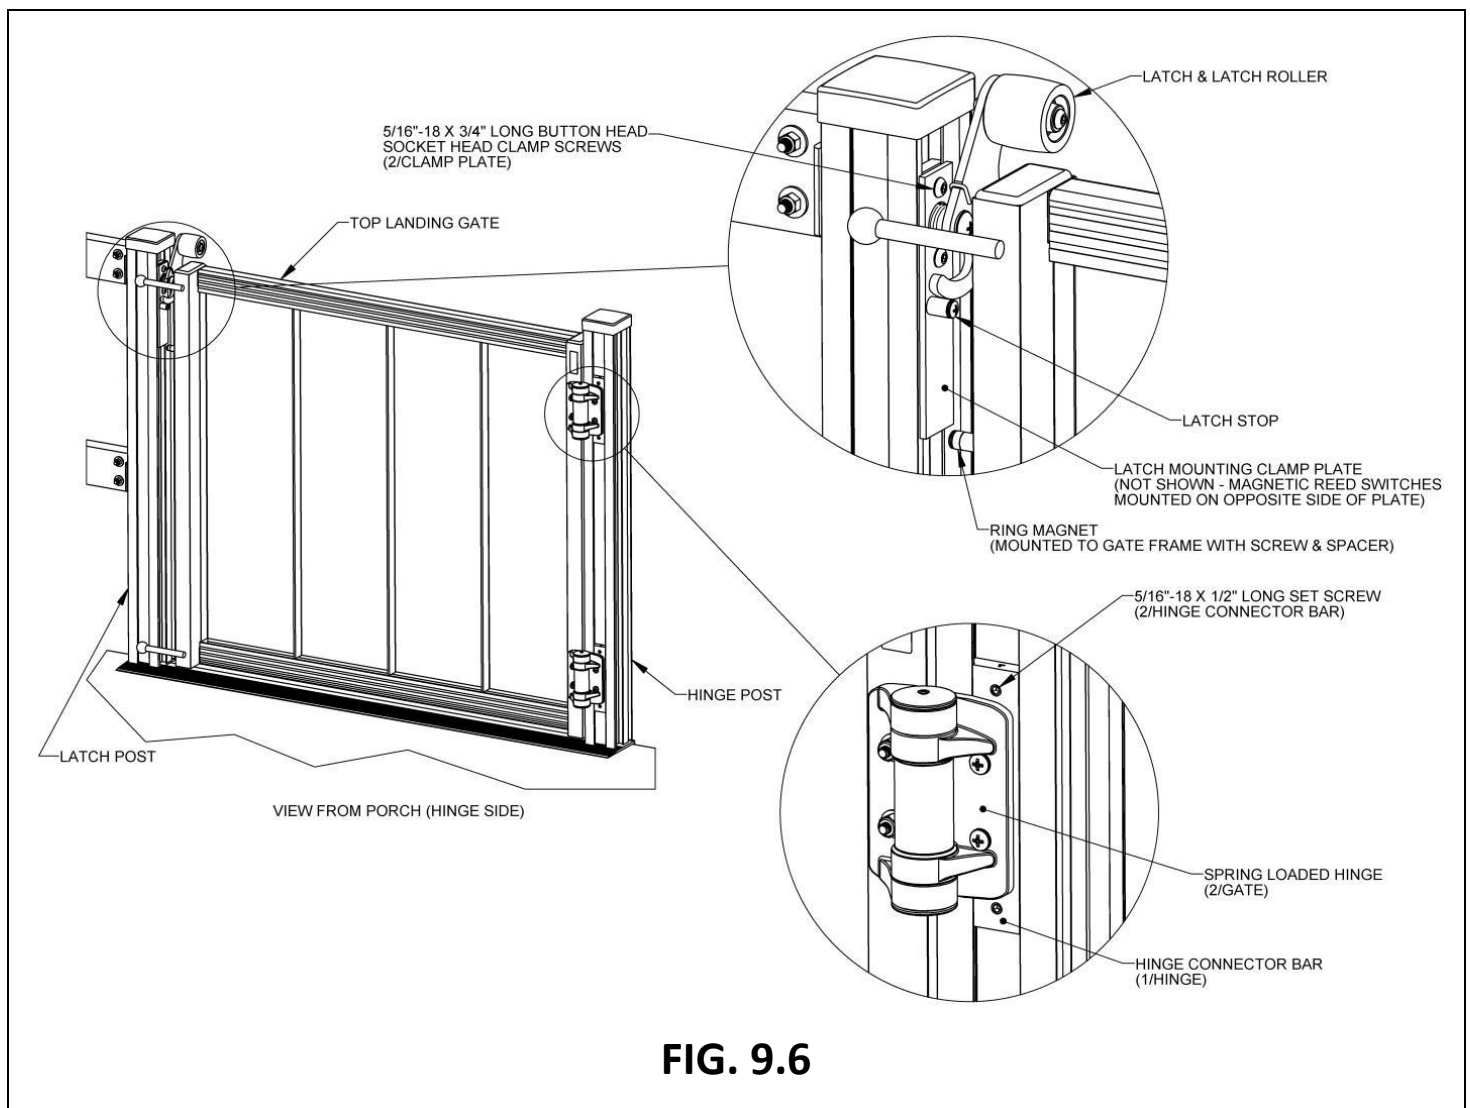

FIG. 9.6
- 9.4.18.1. Loosen two 5/16"-18 x 1/2" set screws in each hinge connector bar enough that the top landing gate will move but do not remove completely (FIG. 9.6).